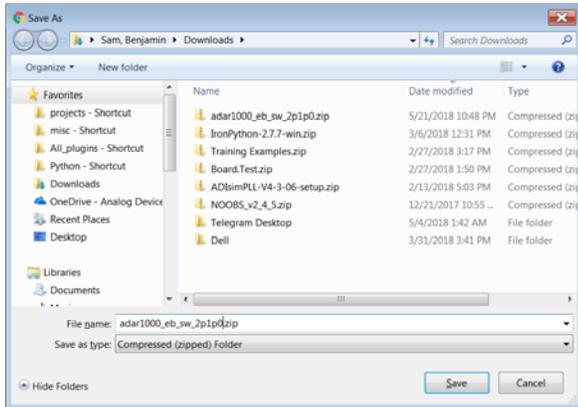

Figure 4. Saving Downloaded Control Software Zip File
2. Save the **adar1000_eb_sw_2p1p0.zip** to the **Downloads** folder or any other convenient location (see Figure 4). Navigate to that location using the **File Manager** and double click the file name to open it.